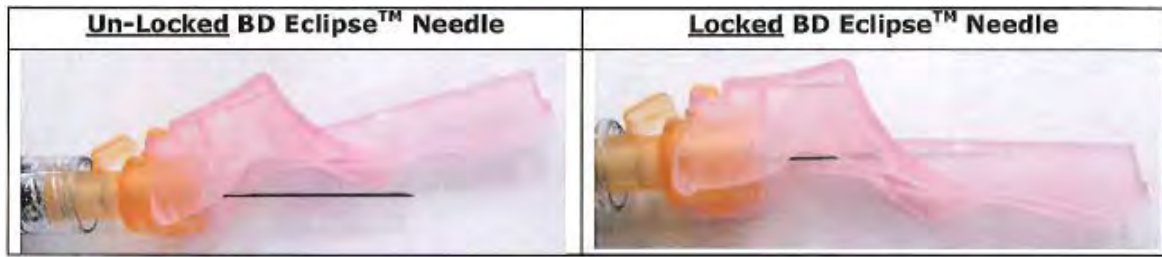

Figure 1: Examples of visual confirmation of un-locked and locked BD Eclipse™ Needle.
2. When using the BD Eclipse™ Needle, follow the instructions for use (IFU) to “Centre your thumb or forefinger on the textured finger pad and push the safety cover forward over the needle until you hear or feel it lock. Per Figure 1, visually confirm the needle is covered when pushing the safety cover over the needle.”